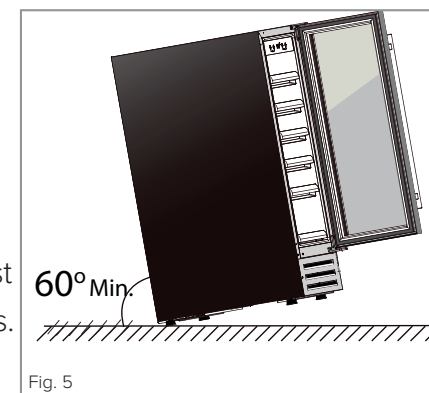

Fig. 5
**Do not tilt the appliance backwards further than an angle of 60° (Fig.5).**